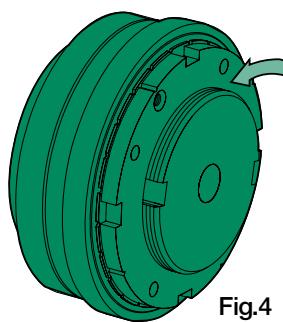
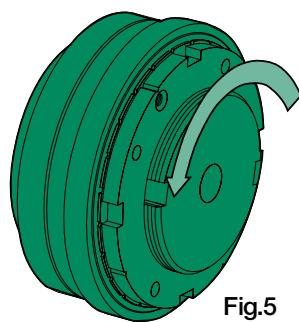

Fig.4
Fig.5
Then go back anticlockwise (fig.4) for only one indent (E) to avoid the blocking between the disc springs (6) and the hub (1): this is the “zero indent”, corresponding to the minimum torque. Starting from the “zero indent”, turn the nut anticlockwise (fig.5) for a number of indents (E) corresponding to the requested disengagement torque, according to the diagram on the label (F) on the outer diameter of the ZBC - NBC torque limiter.